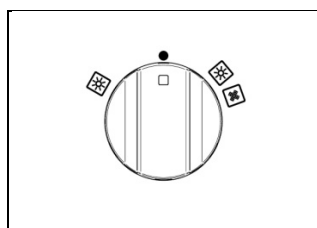

Fig 24A
Using the **2 + 0** switch – the symbol  indicates that the electric fan, and the oven light have been turned on (Fig.24A-24B).
– the symbol  indicates that only the oven light is turned on (Fig.24A-24B).